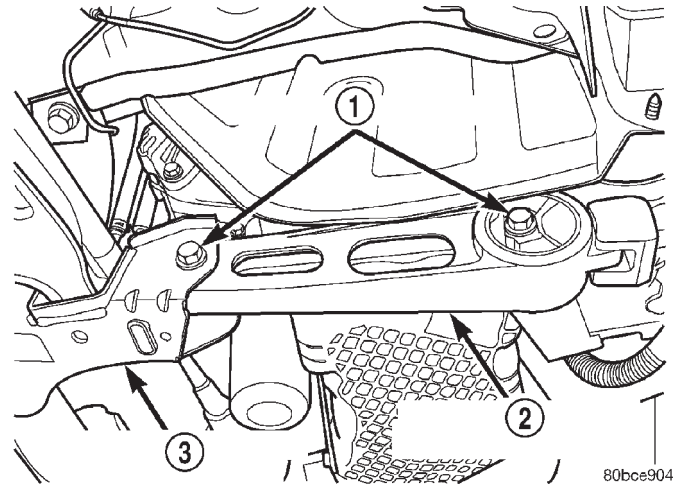

Fig. 16 Engine Torque Strut
(7) If the right lower control arm is being serviced, remove the bolts mounting the engine torque strut in place (Fig. 16), then remove the engine torque strut from the vehicle.
(4) If the right lower control arm has been serviced, install the engine torque strut (Fig. 16). Follow the procedure described in the ENGINE service manual group to properly align and tighten the torque strut.